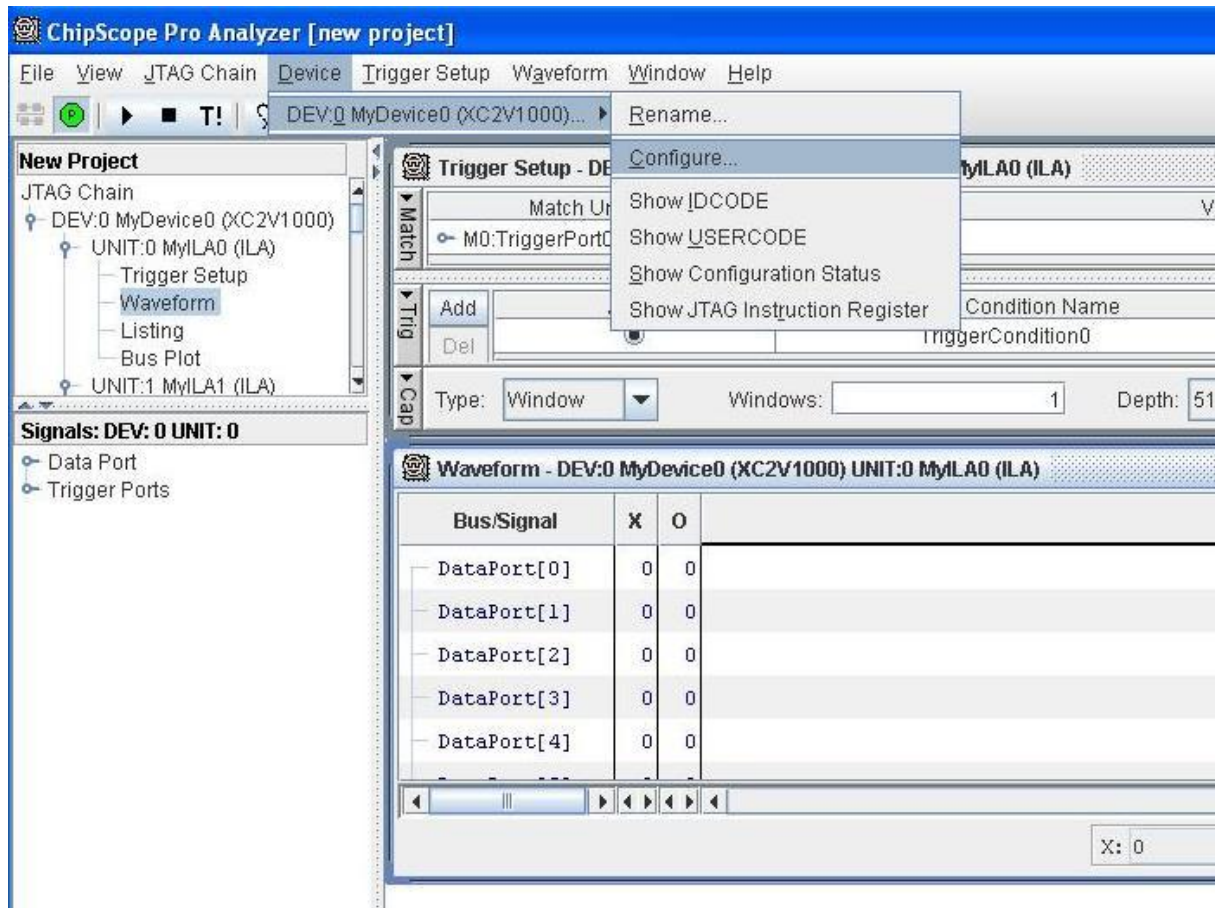

Fig 4.6: Device Configuration
1. If the FPGA device is to be configured with the downloaded cable in JTAG mode, select the device which we desire to configure and select the **Configure** option from **Configure menu option** as shown in Fig 4.6.